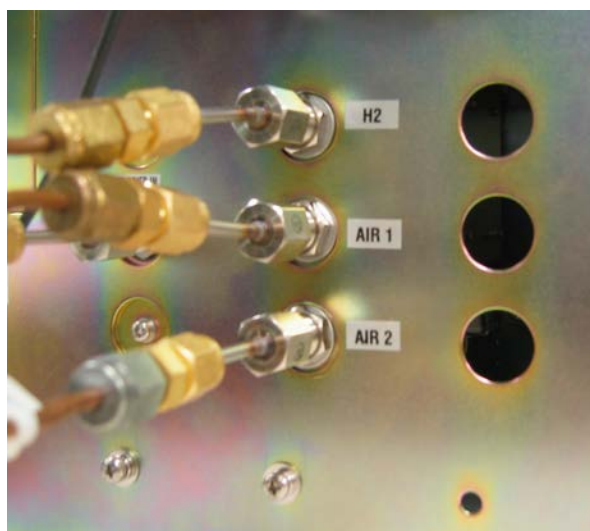

Figure 3.34. Label the Aux APC Gas Connectors
3. Attach the **H2** label immediately to the right of the top Aux APC gas connector, the **Air1** label to the right of the middle connector, and the **Air2** label to the right of the bottom connector on the back of the GC at the Aux APC connections (Figure 3.34).